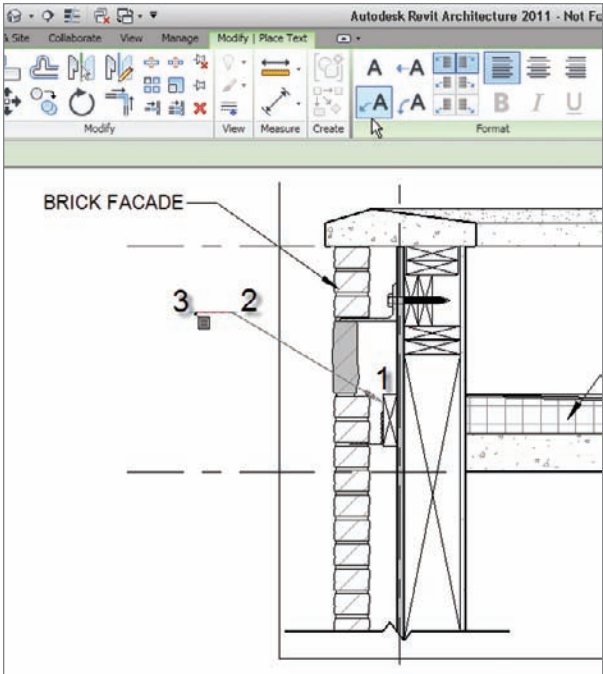

FIGURE 12.57 Adding the leadered text
2. On the Modify | Place Text tab, click the Align Right button on the Format panel, as shown at the top of Figure 12.57.
3. Again, on the Modify | Place Text tab, click the Two Segments leader (the uppercase A in the lower-left corner of the Format panel) (see Figure 12.57).
5. In the section, pick the first point of the leader (labeled “1” in Figure 12.57).
6. Pick the second point above and to the left of the first point (labeled “2” in Figure 12.57).
7. Pick the third point for the second segment, as shown in Figure 12.57.